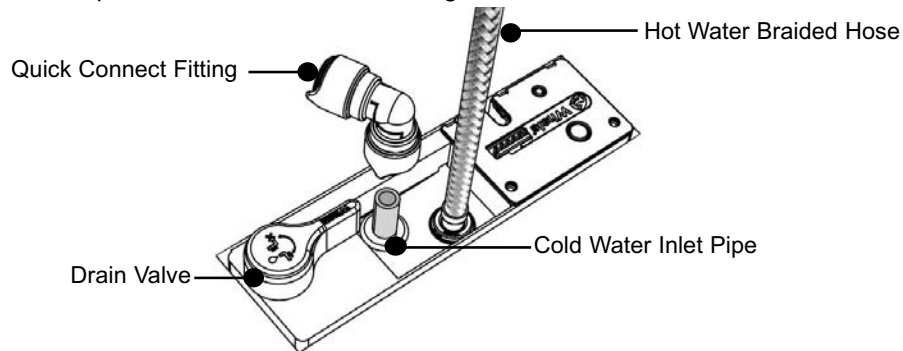

Fig. 32 Connect Hot Water Supply
Step 10 Connect Hot Water Supply (see Fig. 32).